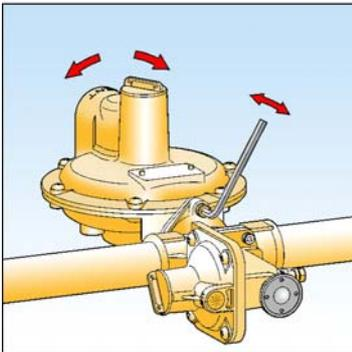

Fig. 2
- 8) In order to fit the regulator into confined spaces it may be necessary to rotate the diaphragm case. This is achieved by slacking off the two cap screws, rotating the diaphragm case, and then re-tightening the cap screws evenly. See Fig. 2.